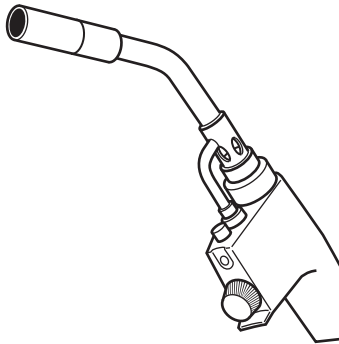

Fig. 12.5
- (d) Fig. 12.5 shows an item of equipment that could be used when brazing the support rods to the backplate.
- (i) Name the item of equipment shown in Fig. 12.5.